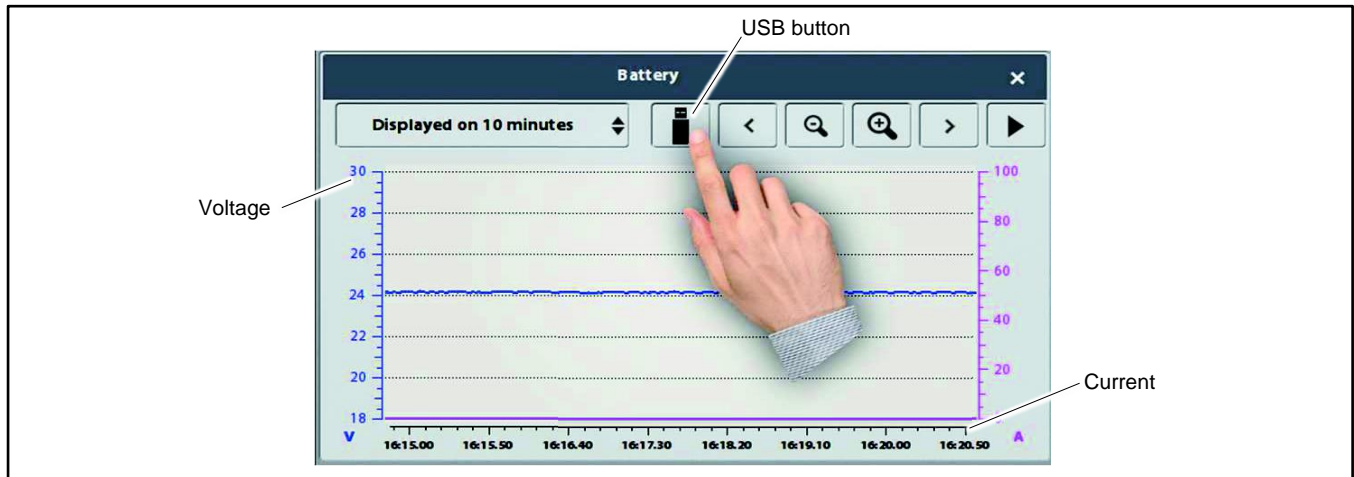

Figure 33 Curve Window (battery data is shown for this example)
On any curve displayed on the screen, inserting a USB key into the HMI port makes the USB key button appear. See Figure 33. Pressing this button automatically saves:
- An image of the selected window in png format. See Figure 33 for an example showing the battery window.